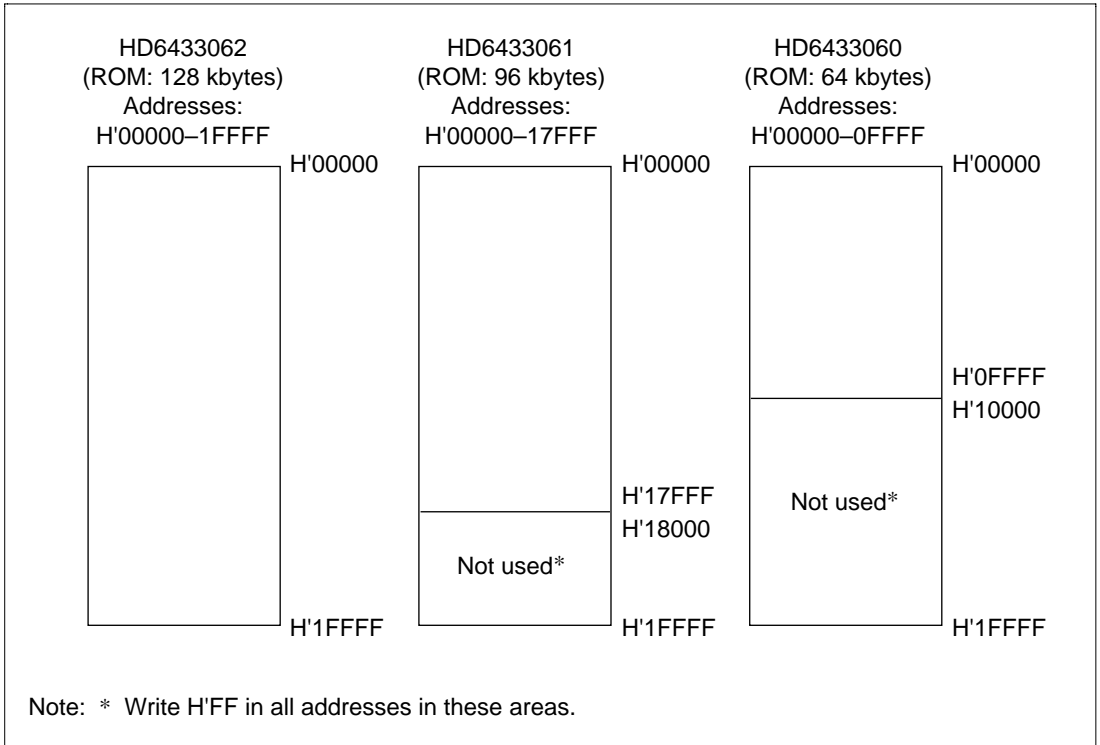

Figure 17.20 Mask ROM Addresses and Data
2. Fill all unused addresses with H'FF as shown in figure 17.20 to make the ROM data size 128-kbytes for the H8/3062, H8/3061, and H8/3060 mask ROM versions, which incorporate different sizes of ROM. This applies to ordering by means of an EPROM and by means of data transmission.